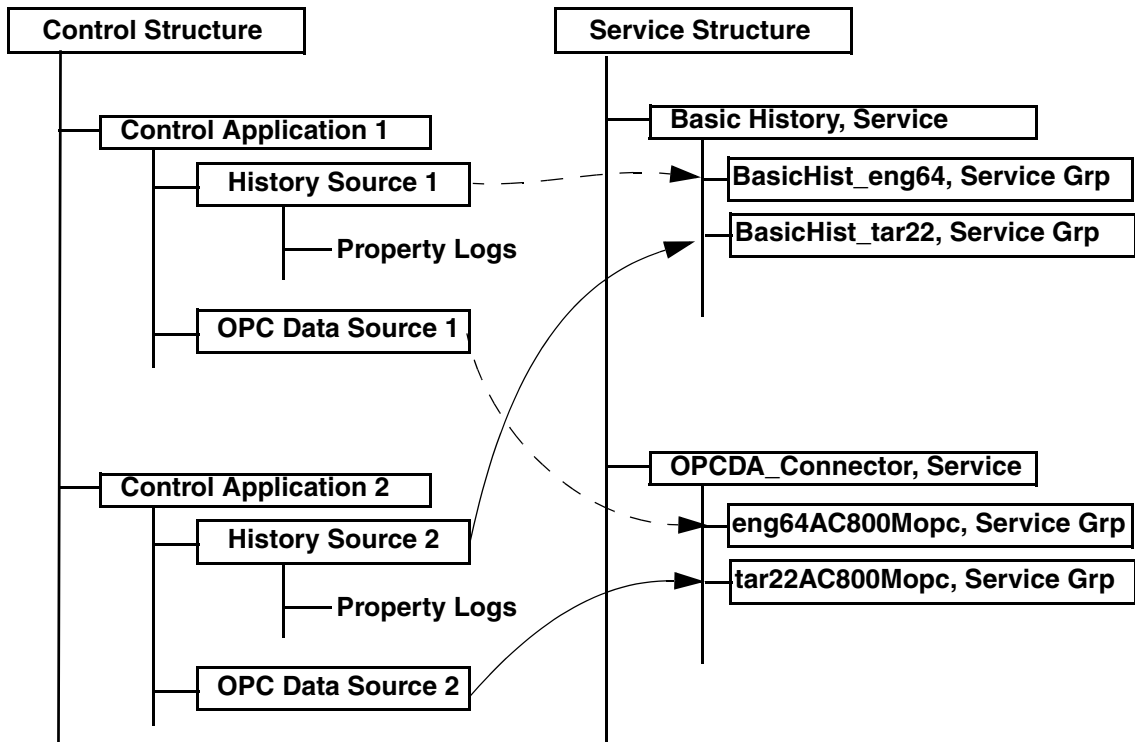
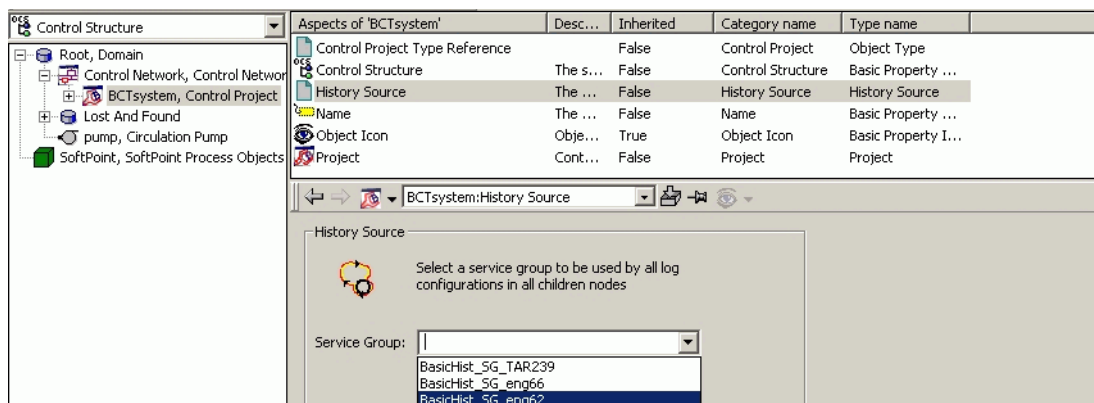

Figure 119. Example, History Source Configuration
Figure 121. Configuring the History Source
The History Source aspect must be configured to point to the History Service Group for the same node where the OPC Data Source aspect points. This is illustrated in Figure 119.
3. Click on the History Source aspect and use the Service Group pull-down list to select the Service Group for a specific node, Figure 121 (use the same node specified in the OPC Data Source aspect (Figure 119)).